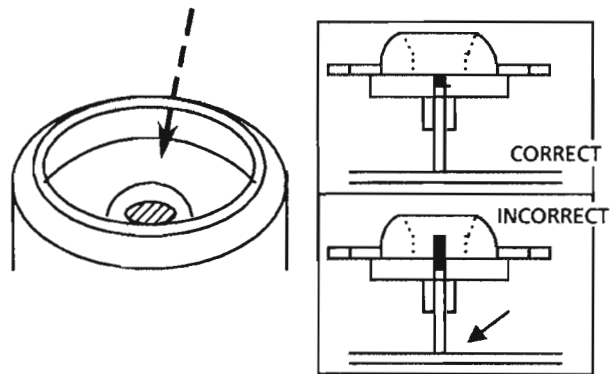

Fig 15
- (4)** After inserting the turntable, bond the motor shaft and turntable together (at the section marked by an arrow in fig 15 on the left below).
- (5)** Use "LOCKTITE" #460 bonding agent, and apply as little as possible. Take care not to allow any excess bonding agent to get onto the turntable. Be extremely careful not to allow bonding agent to adhere to the motor bearings (the section marked by an allow in fig 15 on the right).